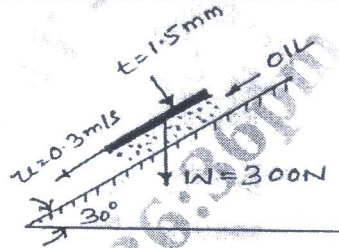

Fig.Q.1(b)
- b. Calculate the dynamic viscosity of an oil, which is used for lubrication between a square plate of size $0.8\text{m} \times 0.8\text{m}$ and an inclined plane with angle of inclination 30° as shown in Fig.Q.1(b). The weight of the square plate is 300N and it slides down the inclined plane with a uniform velocity of 0.3m/s . The thickness of oil film is 1.5mm . (08 Marks)